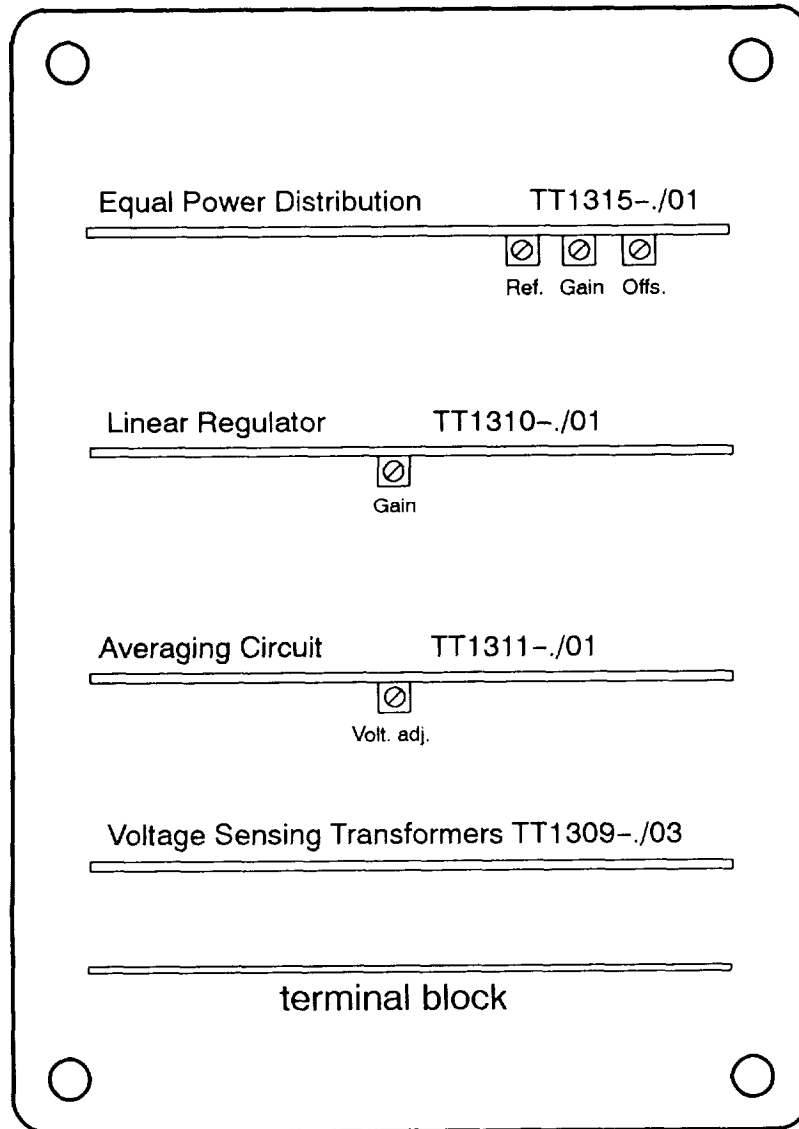

Figure 5-28 Voltage Regulator N2, Location of Circuit Boards and Potentiometers.
- a. Use potentiometers (figure 5-28) to adjust power distribution:
- d. Preset potentiometers (figure 5-28).